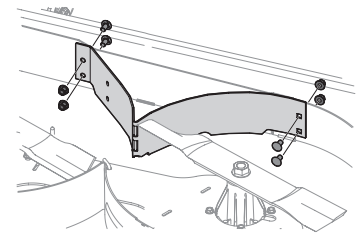

Figure 4
1. Install center bracket using four carriage bolts (710-3178) and four hex flange nuts (712-05007). See Figure 4.